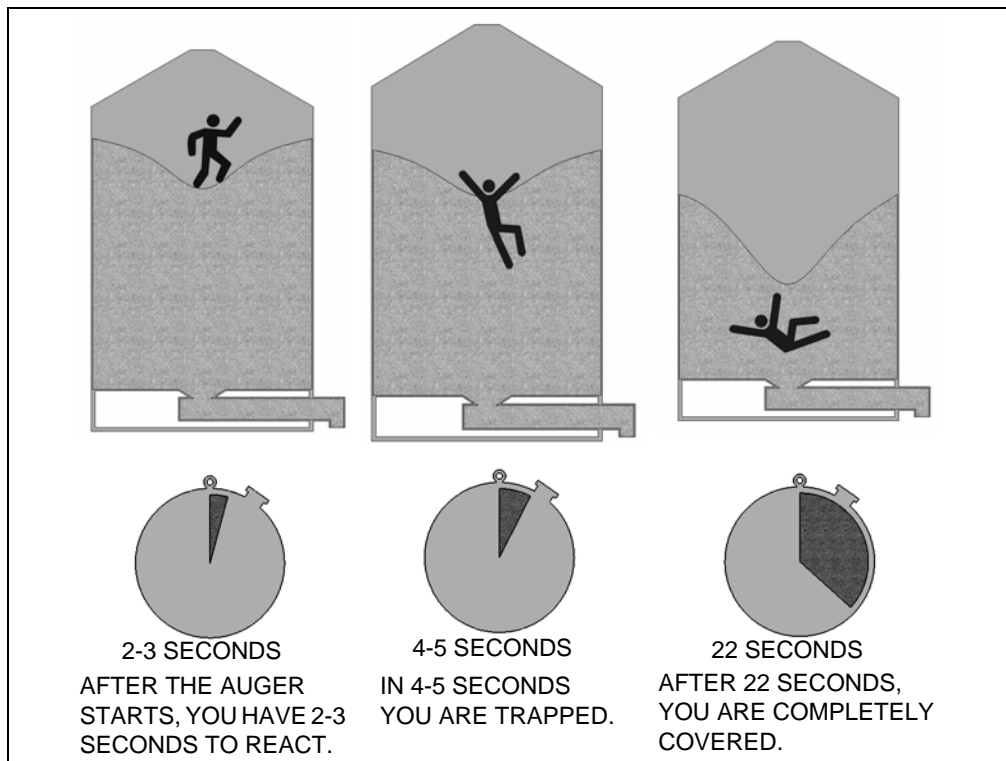

Figure 2.3 Bin Suffocation Hazards in Flowing Grain
- Always try to solve problems without entering a bin from the inspection hatch. It takes more than 1000 lb of force to remove someone buried below the surface of grain. **Entering the bin while the unload is operating will cause serious injury or death.** Refer to Figure 2.3.